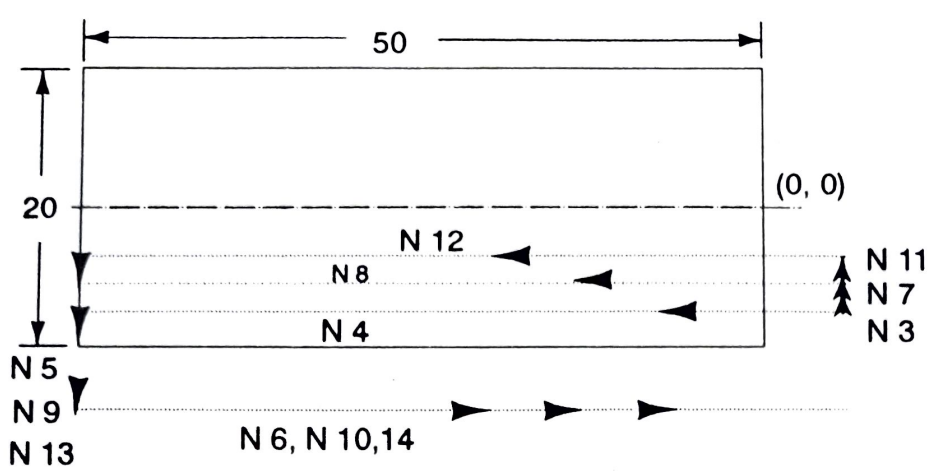

Fig. 5.9.
Thread cutting can be done on CNC lathe using G33 code. But additional parameters based on type of thread, depth of thread and pitch, etc. are to be given in the programme. Thread cutting operation on a CNC lathe is performed by moving the slide in synchronisation with the job on which threads are to be cut. The required thread pattern and the shape of the thread is generated by the thread cutting tool. In thread cutting operation, the axis feed rate is calculated by the control system from the programmed values of pitch of the thread and spindle speed. To attain full depth of the thread, a number of cuts have to be taken, and each time the depth of cut is incremented by a small value. The part program to cut threads of 50 mm length with pitch = 0.75 mm and depth of thread = 0.46 mm is discussed below. Here the lead (pitch) of the thread is programmed under K word. The programmed motions are shown in Fig. 5.9 and the part programme will look as under:
6. Explain the thread cutting operation on a CNC lathe. Rewrite the part programme for the threading job shown in Fig. 5.9 using absolute dimensioning.